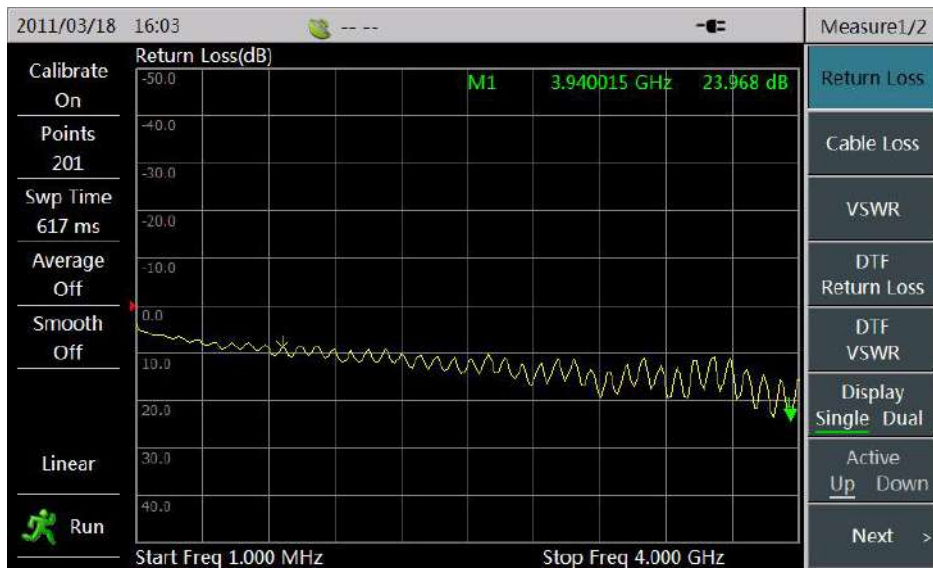

Figure 1-8 Return Loss Curve under Default Scale
- 1) According to the operating steps in Section 1.1, the measured return loss curve can be observed in screen of the instrument. In order to observe the details of the return loss curve more clearly, user can press **【Ampt】**, and then click **[Top]** and **[Bottom]** menu in the menu bar to set the amplitude value displayed in the screen, or directly select the **[Auto Scale]** adjustment to set the value, as shown in Figure 1-8 and 1-9: